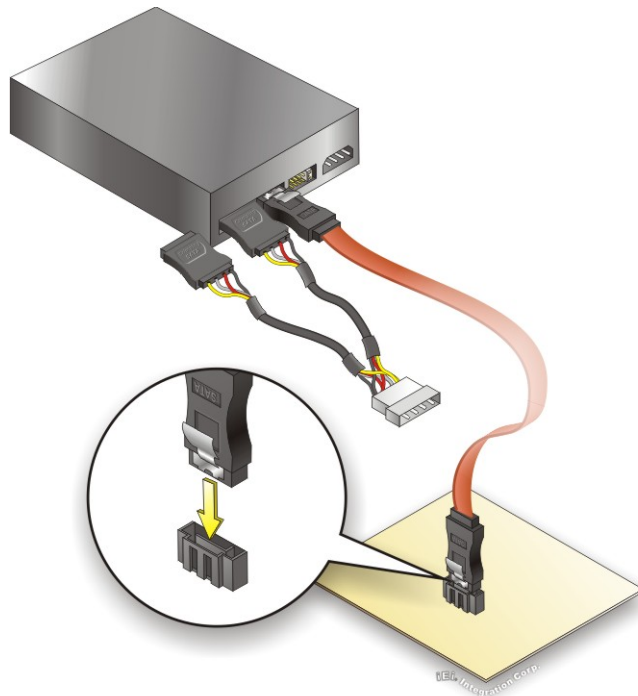

Figure 4-11: SATA Power Drive Connection
Step 3: Connect the cable to the SATA disk. Connect the connector on the other end of the cable to the connector at the back of the SATA drive. See **Figure 4-11**.
Step 4: Connect the SATA power cable. Connect the SATA power connector to the back of the SATA drive. See **Figure 4-11**.